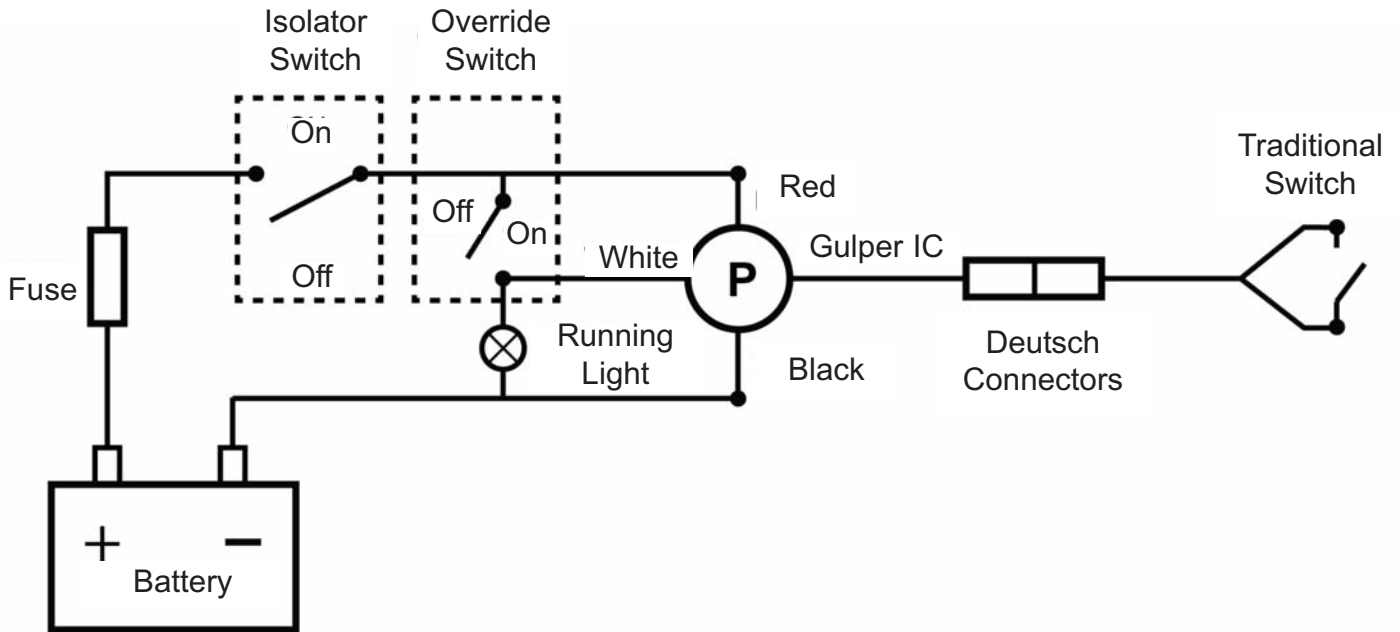

Fig 6b Wiring Gulper® IC to traditional switch - non Whale® IC accessories
- Fig 6b Wiring Gulper® IC to Traditional Switch - non Whale IC Accessories